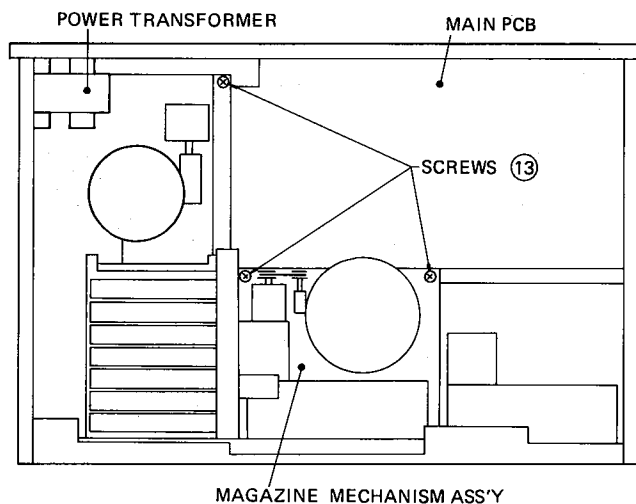

Fig. 7
- 9) When the 3 Magazine Mechanism Ass'y fixing screws (13) shown in Fig. 7 are removed, the Magazine Mechanism can be removed.